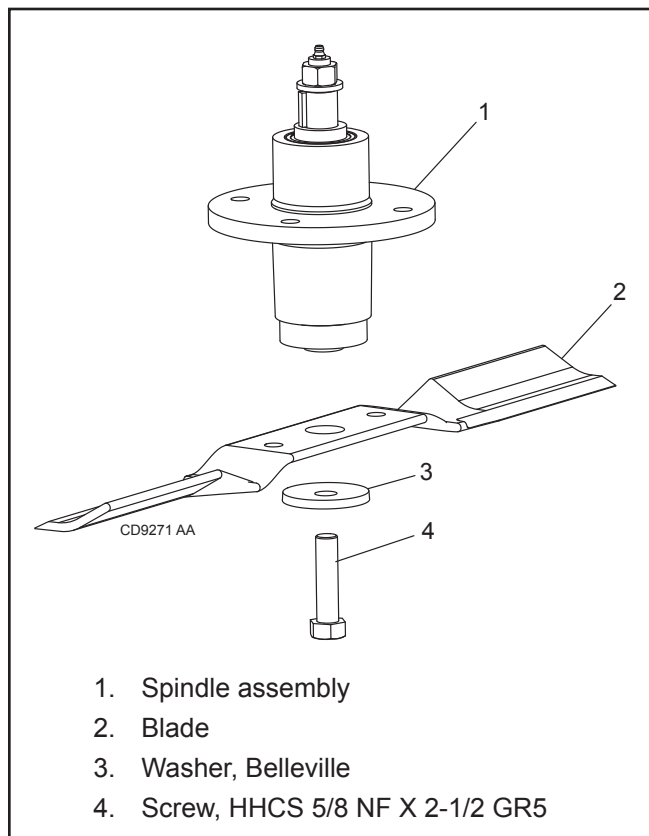

Figure 16. Blade Installation
- When installing blade, the lift of the blade must be toward the blade spindle housing as shown in Figure 16, page 25.